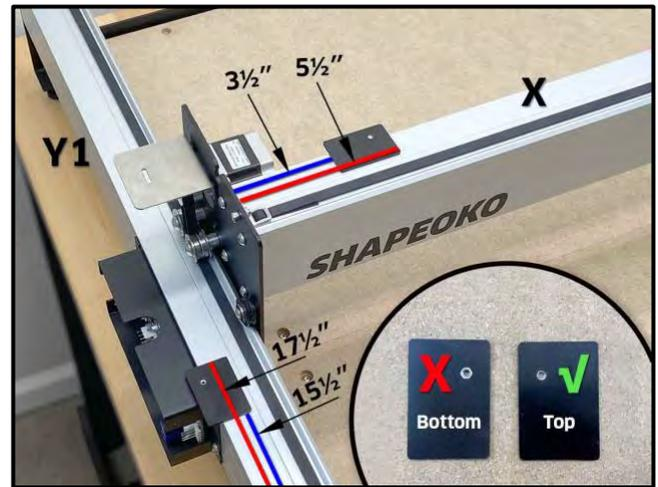

Figure 8
1. Attach one (1) tail plate to the X-rail. See **Fig. 8**.